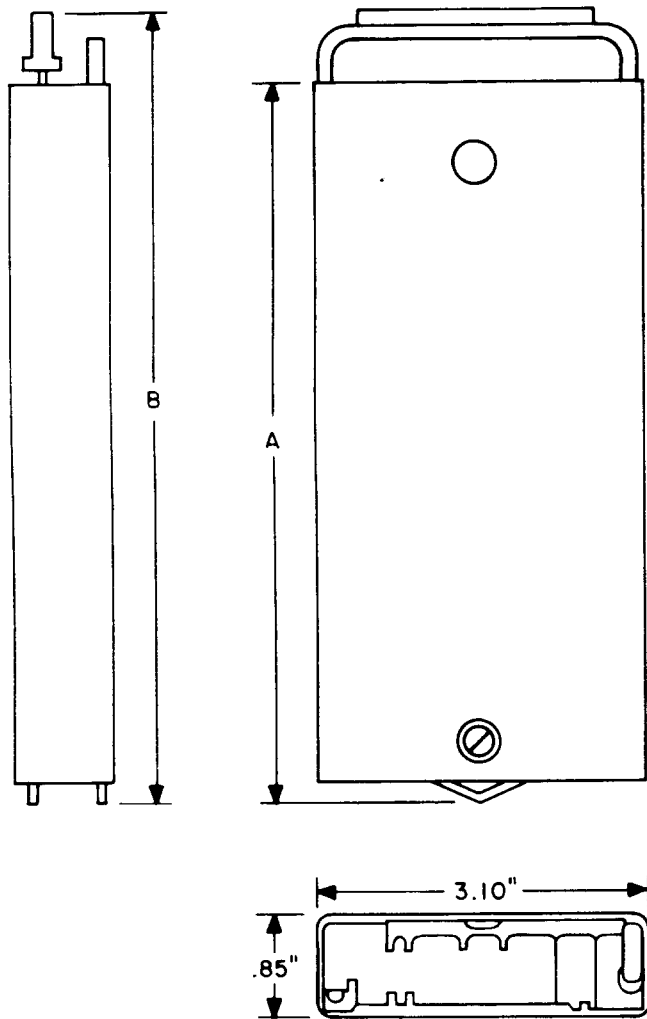

Fig. 14—977-Type Connectors
**2.10 977A, B, C, and D:** The 977-type connectors (Fig. 14) consist of a printed wiring board with one end having printed wiring terminals which serve as a connector. The connectors are provided with a faceplate, handle, and a backplate, all of which are enclosed in a metal can. The dimensions for the 977A and B connectors are: A = 5.90 inches and B = 6.60 inches. The dimensions for the 977C and D connectors are: A = 7.40 inches and B = 7.95 inches. The connectors are used on the tantalum integrated circuit (TIC) 479-type apparatus cases.